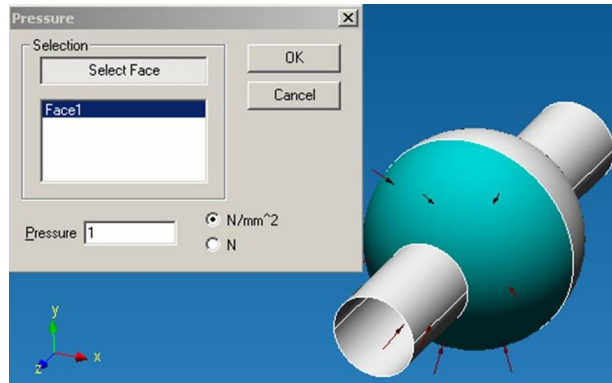
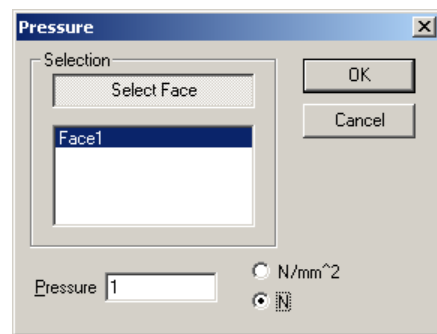

Fig. 2.9.4 Fix the highlighted surface, which will be under pressure
Fig. 2.9.5 Pressure value setting
To fix the highlighted surface you have to make a left-click. After that the selected surface will be put into the face list and red arrows will be drawn on it; they show the direction of pressure (Fig. 2.9.4).
The final stage is to specify the value of the surface pressure. For this purpose it is necessary to enter from the keyboard a numerical value into a field near the *Pressure* text box. This value can be both in  $\text{N/mm}^2$  (N) suggested in Fig. 2.9.4 and as a force acting on this face. For this purpose it is necessary to move the cursor to a corresponding text box ( $\text{N/mm}^2$  or N) and make a left-click (Fig. 2.9.5).